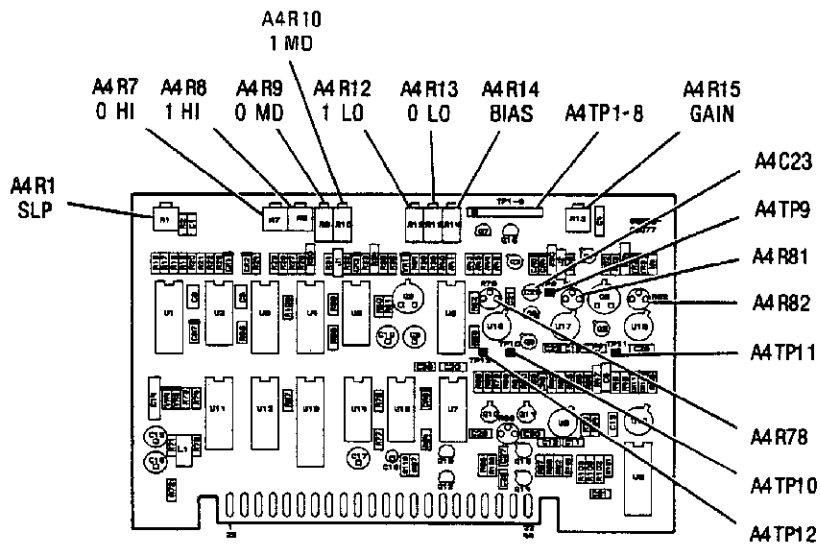

Figure 5-36. ALC Adjustment Locations
2. Float the ground on the Digital Voltmeter and measure the voltage between A4TP9 and A4TP10. Refer to Figure 5-36 for adjustment locations. Adjust A4R81 (OFS 1) for  $0.000 \pm 0.001$  Vdc.